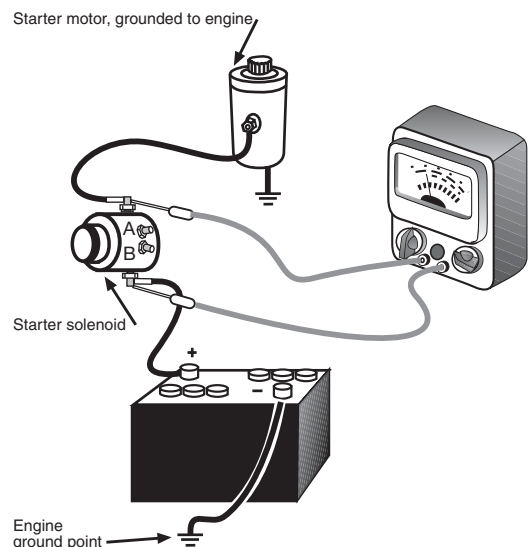

Figure 6-10. Starter circuit voltage-drop test—Step 2.
*Step 2.* Now it's time to check the voltage drop through the solenoid. It's important that you don't connect the voltmeter leads as shown in Figure 6-10 until the engine is cranking. If you connect up when the engine isn't being cranked, you risk damage to your voltmeter.